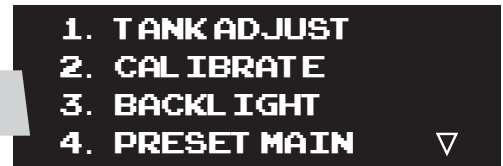

fig. 3
2. Press buttons 1 and 5 at the same time (1+5) and hold for 5-10 seconds until settings and diagnostics mode main page appears (fig. 3).